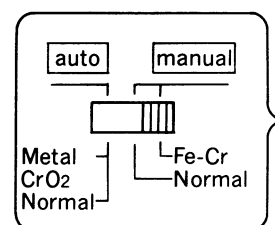

Fig. 6
- Set the tape selector located at the back of the set to Fe-Cr-manual position (fig. 6).